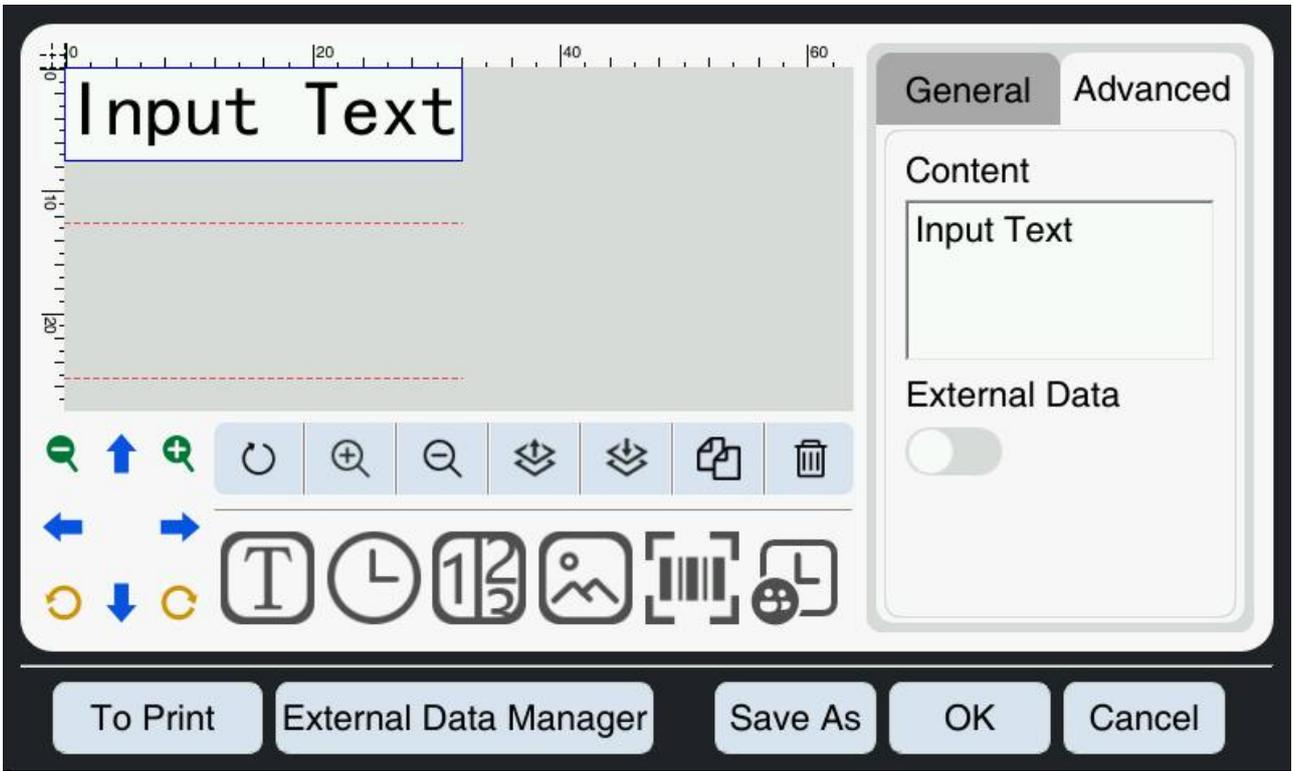

Figure 5-3 Load file interface
- 1 . Click the button on **Load File** the main interface to enter the loading file interface, as shown in Figure 5-3.